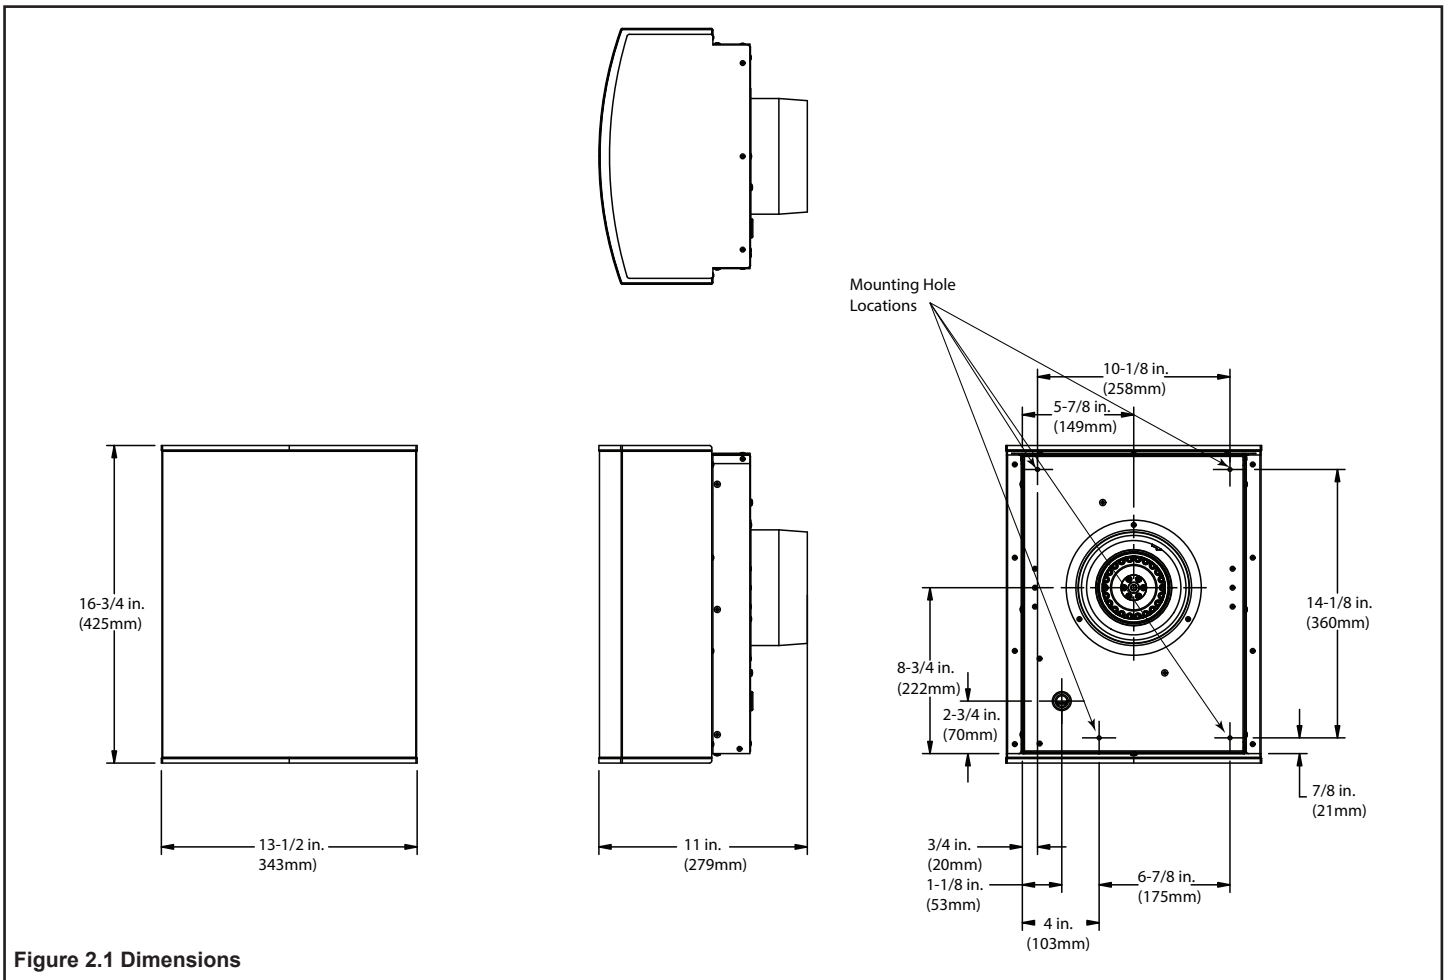

Figure 2.1 Dimensions
The dimensions are measured as shown in Figure 2.1.
4. Cut a 7" diameter hole in the outside of building where the duct for the HEAT-OUT-PRIMO is to be located. Refer to Figure 2.1 and 2.3 for duct location on HEAT-OUT-PRIMO.